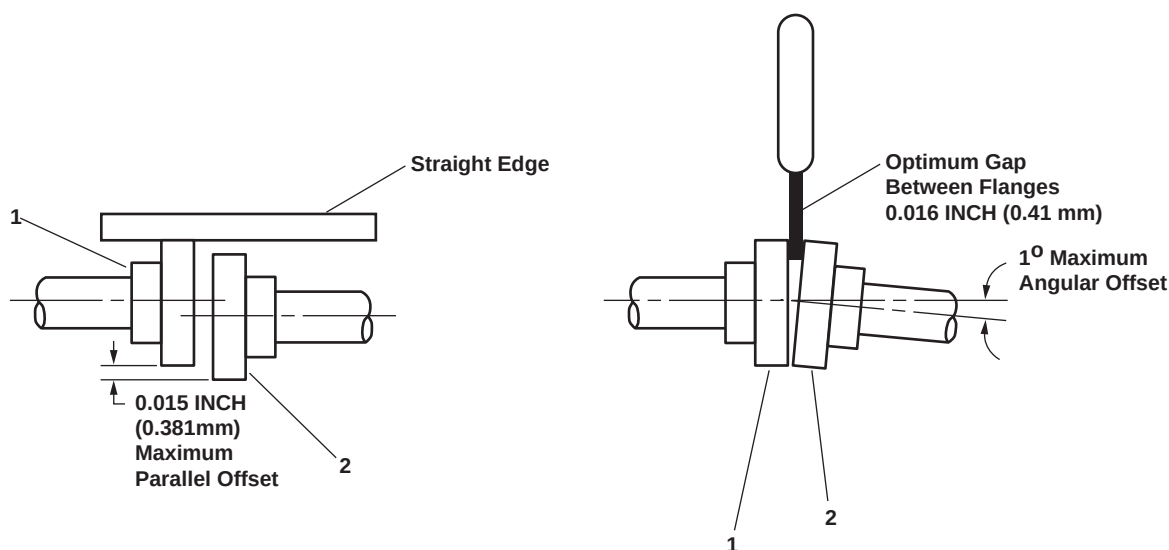

Figure 5. Alignment of Pump Coupling Flange and Motor Coupling Flange
9. Align the pump coupling flange (figure 5, item 1) and the motor coupling flange (figure 5, item 2) together leaving approximately 0.016 inch (0.41 mm) space between the ends of both flanges. Refer to figure 5.
10. Check the alignment between the pump coupling flange (figure 5, item 1) and the motor coupling flange (figure 5, item 2).
11. The maximum angular offset shall be 1 degree and maximum parallel offset shall be 0.015 inch (0.381 mm). Refer to figure 5.